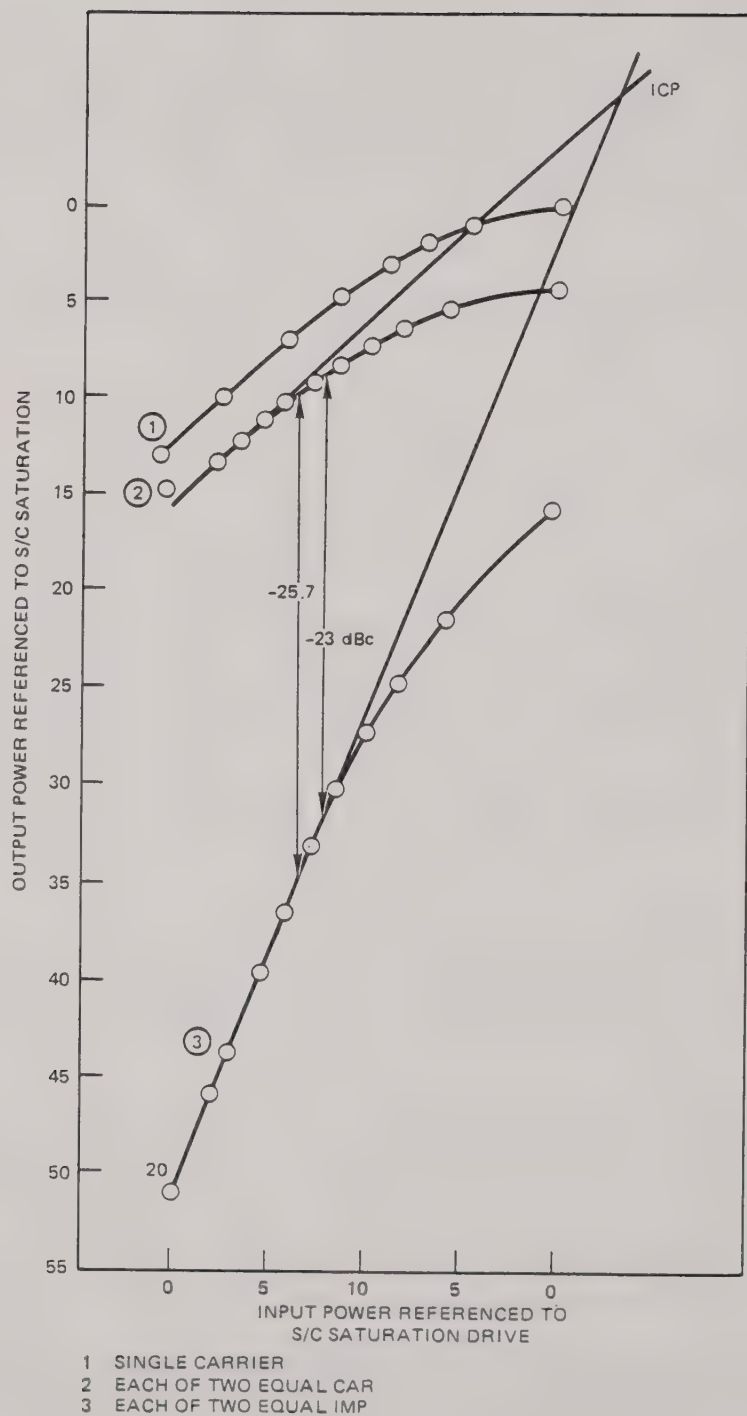

Figure 2.7-2 Typical third-order product curve.
When amplifying multiple carriers, intermodulation (IM) products will occur with levels dependent on the region of operation. Because their frequency placement comes closest to the desired carriers, third order products are of greatest concern. Figure 2.7-2 shows a typical third-order IM product curve. Note that, in the linear gain region, a change of 1 dB in RF output causes a 3-dB change in the third-order IM product level. In addition, note that the RF output power is distributed among the carriers and their IM products. Therefore, if the saturated output power for a single carrier is 20 watts, and the TWT is driven to saturation by two carriers, the output of each amplified carrier will be somewhat less than 10 watts because of the power absorbed in generation of the IM products. The intercept point is typically 5 dB greater than the rated single carrier power output.